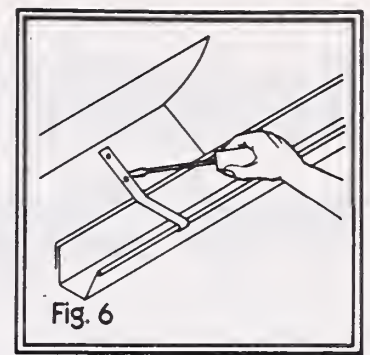
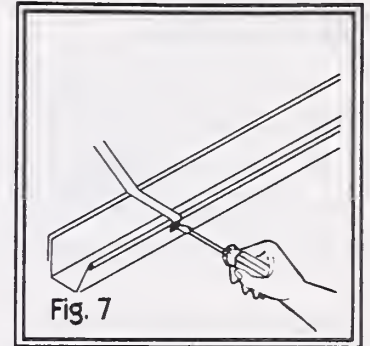

Fig. 6
Fig. 7
9. If the hanger is a strap type, lift the edge of the shingle or other roofing material to expose the strap. Remove the end of the strap from the roof (fig. 6). Then unscrew or unsnap the attached end of the strap from the gutter (fig. 7).